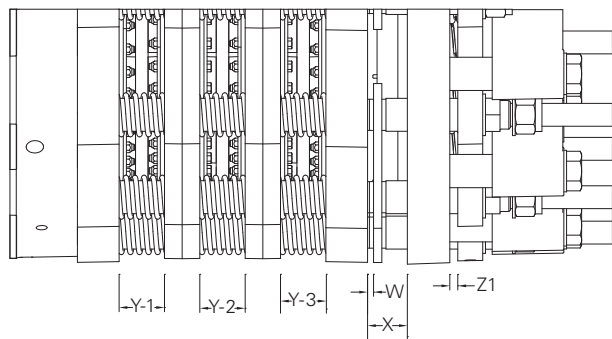

Figure 6
- (c) Verify that the air pressure has been fully exhausted from these chambers by checking any in-line gauges (they should read zero pressure), and also by inspecting specific gaps between components as noted below. Refer to Figures 6 and 6A for the corresponding gap locations.
- (d) Measure gaps between the components at positions W, X, Y-1, and if applicable, Y-2, and Y-3. See Figures 6, and 6A for the location of those gap positions.